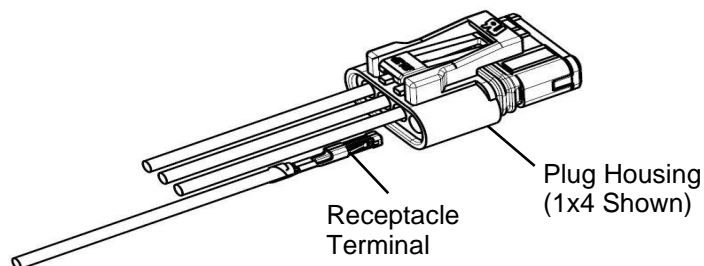

Figure 9
4. Grasp the wire directly behind the insulation barrel and push the contact straight into the housing cavity until contact locks in place. See Figure 9.